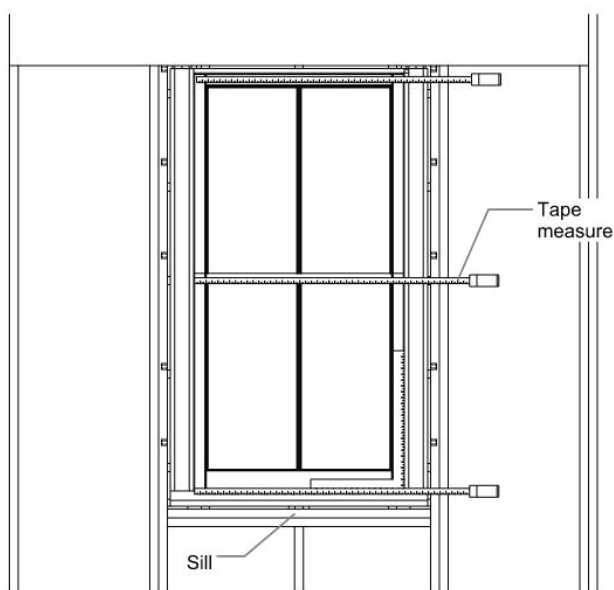

Figure 3
1) Measure the width. Measure the width between the side jambs (wood surface to wood surface) in three places: top, middle, and bottom. Temporarily remove jamb liners if necessary and avoid any stops, weatherstrip, balance cords, pulleys, etc. Record your measurements. *(See Figure 3 on next page)*